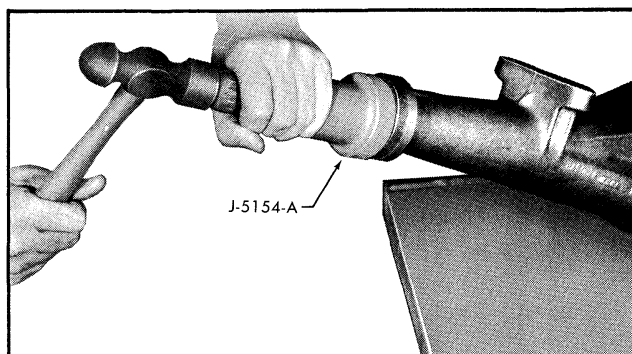

Fig. 7-13 Installing Extension Oil Seal
1. Coat new seal with sealing compound and start straight in bore of case extension. Using installer J-5154-A, tap seal into counterbore (Fig. 7-13).